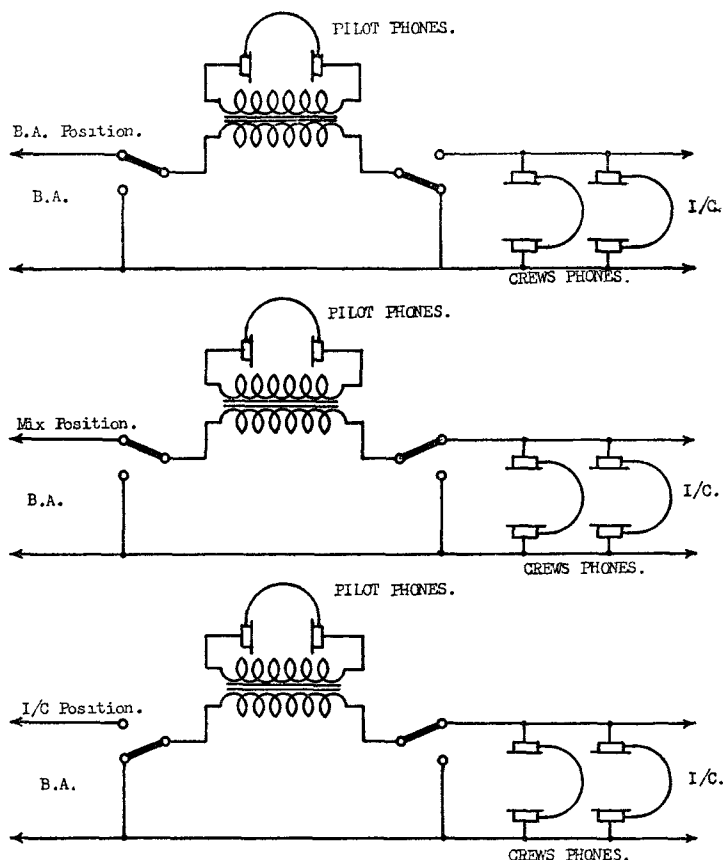

FIG. 88A.—Junction box, Type 9.
9. Junction Box Type 9, or Mixer Box (fig. 88A).—Only used in large aircraft where I/C is essential at all times. A three-position switch gives the following arrangements:—